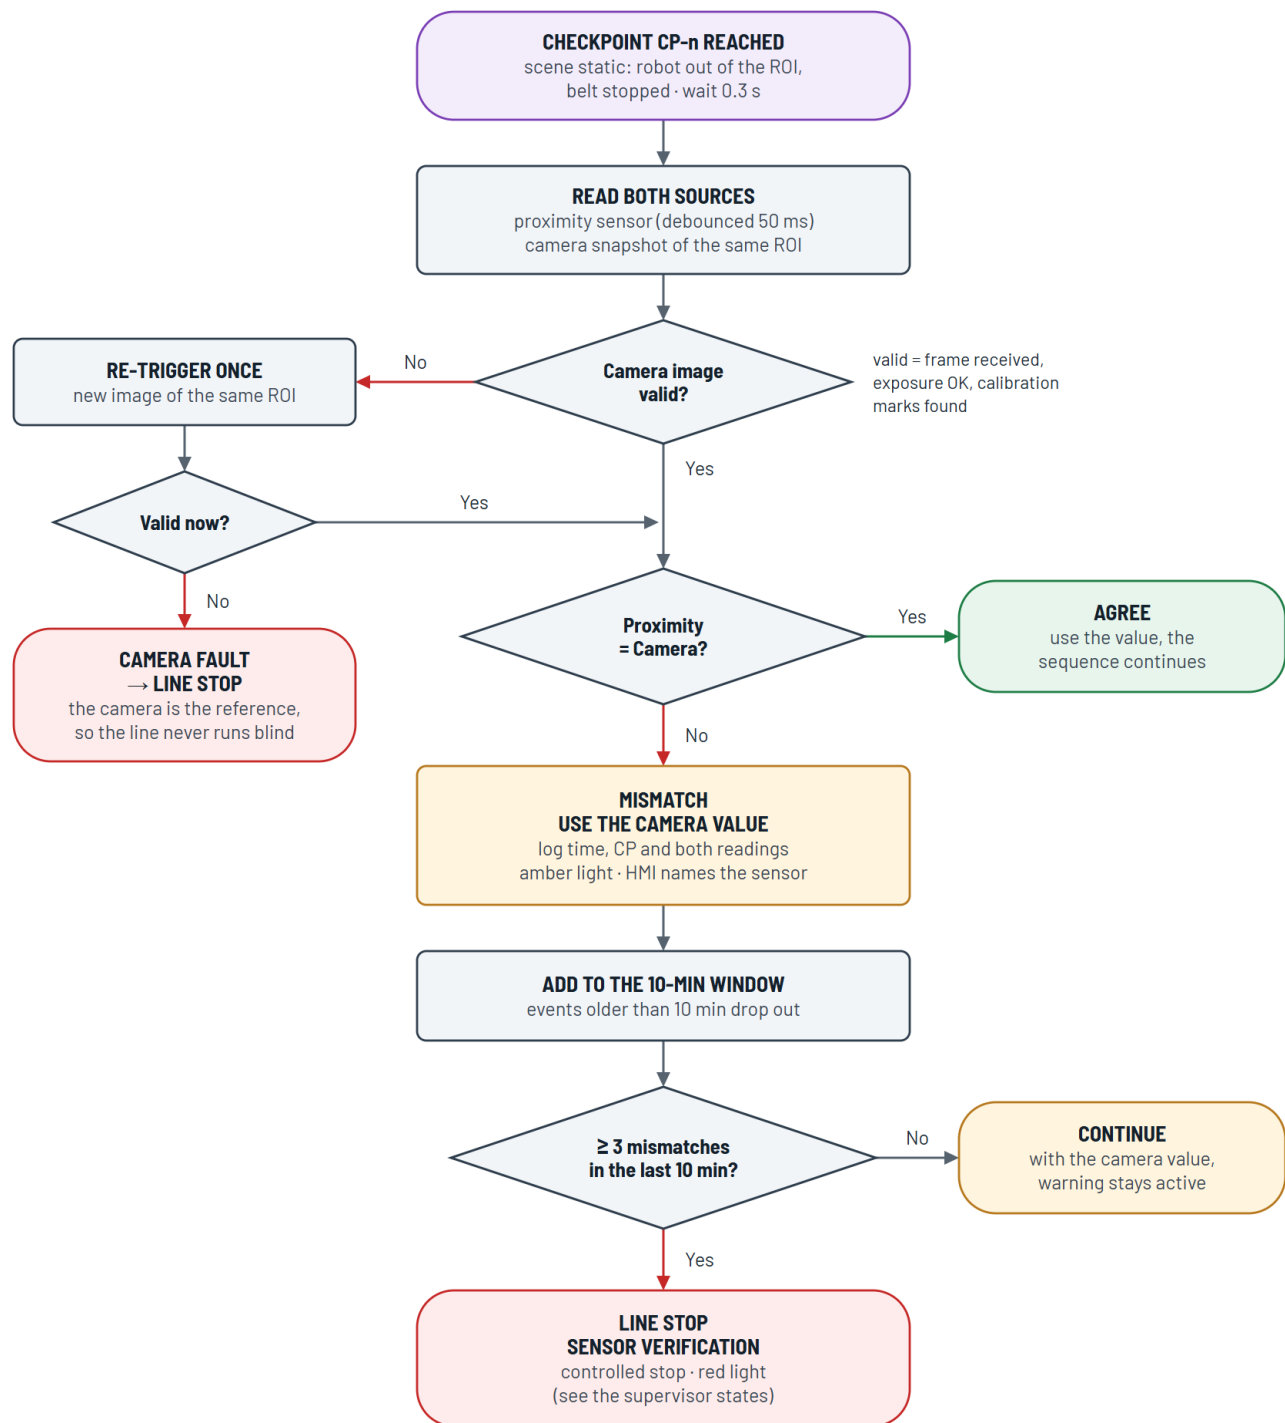
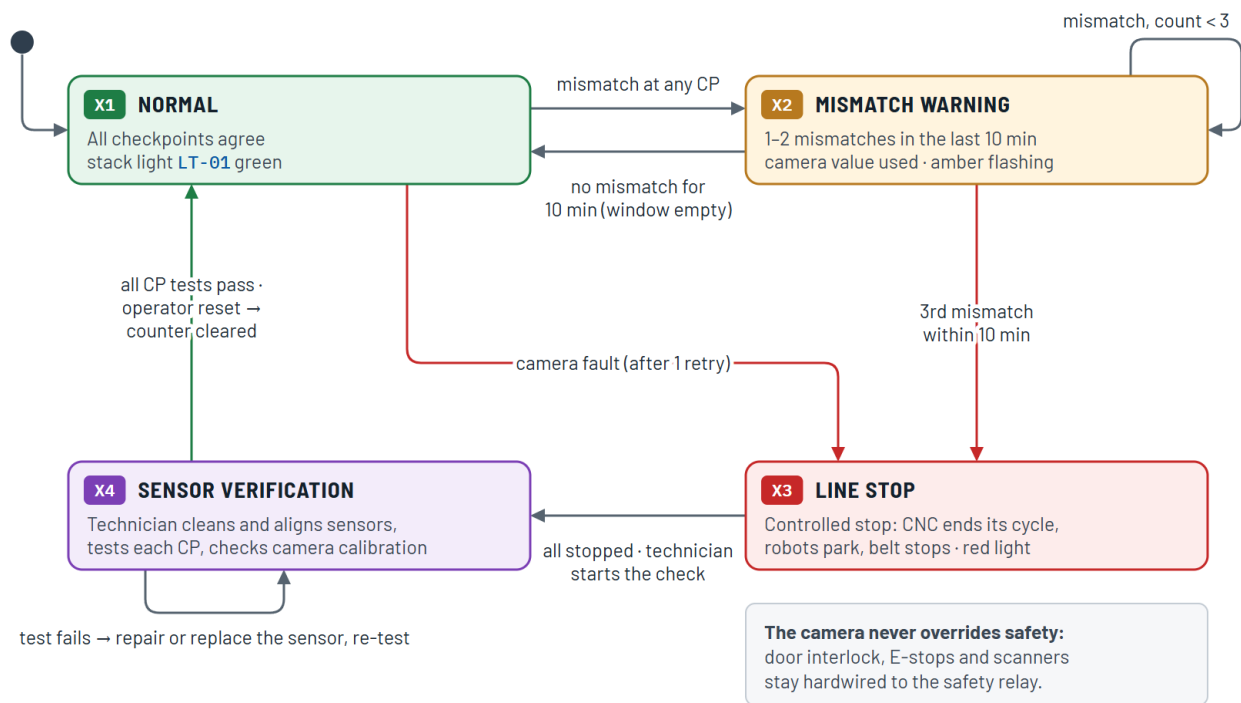

Figure 3. Decision logic executed at every checkpoint.
Figure 4. State diagram of the cross-check supervisor (runs in parallel with the other state machines).
- **Parameters (HMI):** window 10 min, limit 3 mismatches, settling 0.3 s, debounce 50 ms. Figure 3 shows the decision logic and Figure 4 the supervisor states.